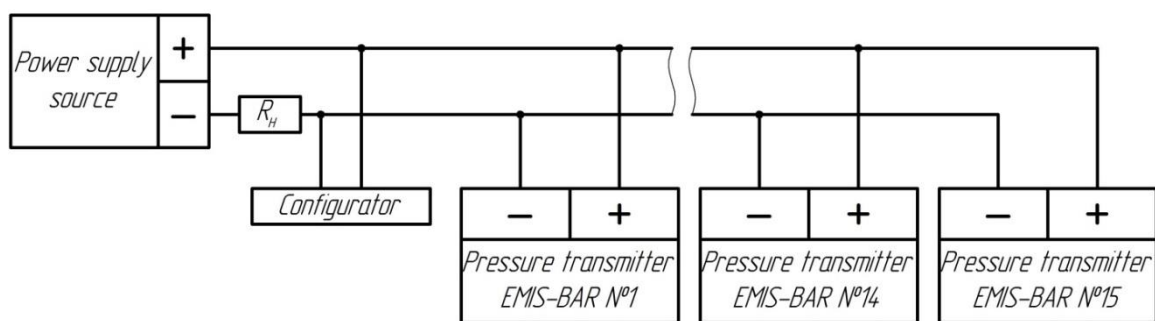

Figure 20 - Connection scheme for multipoint HART network
2.4.3 Figure 20 shows communication chain with the transmitter connected to multipoint HART network. Up to 15 transmitters can be connected to the same line, and they shall be connected in parallel. Current signal (4mA DC) shall be restricted at all transmitters. In this case, total power consumption is decreased.